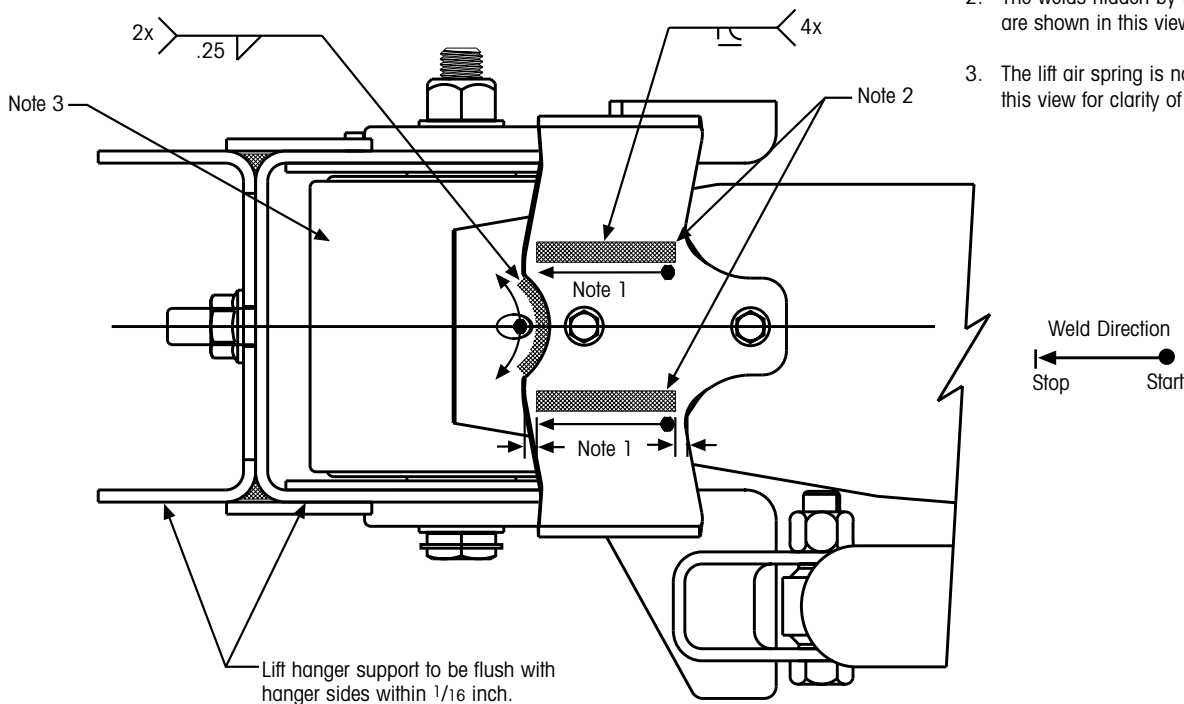

Figure 5. Welding the lift bracket
2. Weld lift bracket to the beam; refer to the weld symbols on the drawing to properly weld it (Figure 5 on page 6 and the assembly drawing).
2. Weld the C-channel in place (Figure 5 and the assembly drawing).